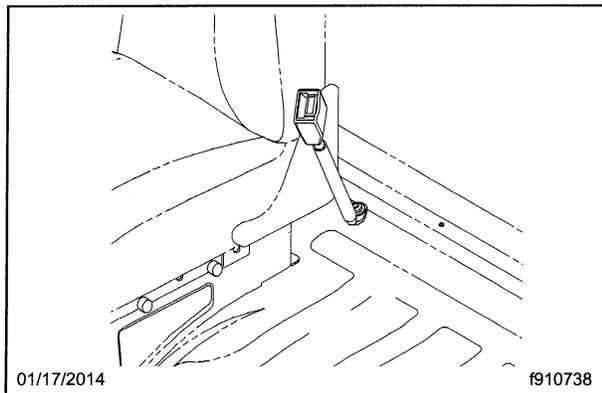

Fig. 10, Floor-Mounted Buckle
- Static seats have the buckles mounted directly to the cab floor. See **Fig. 10**.
1. Remove the capscrew that attaches the buckle to the cab deck. See **Fig. 10**. Remove and discard the buckle.